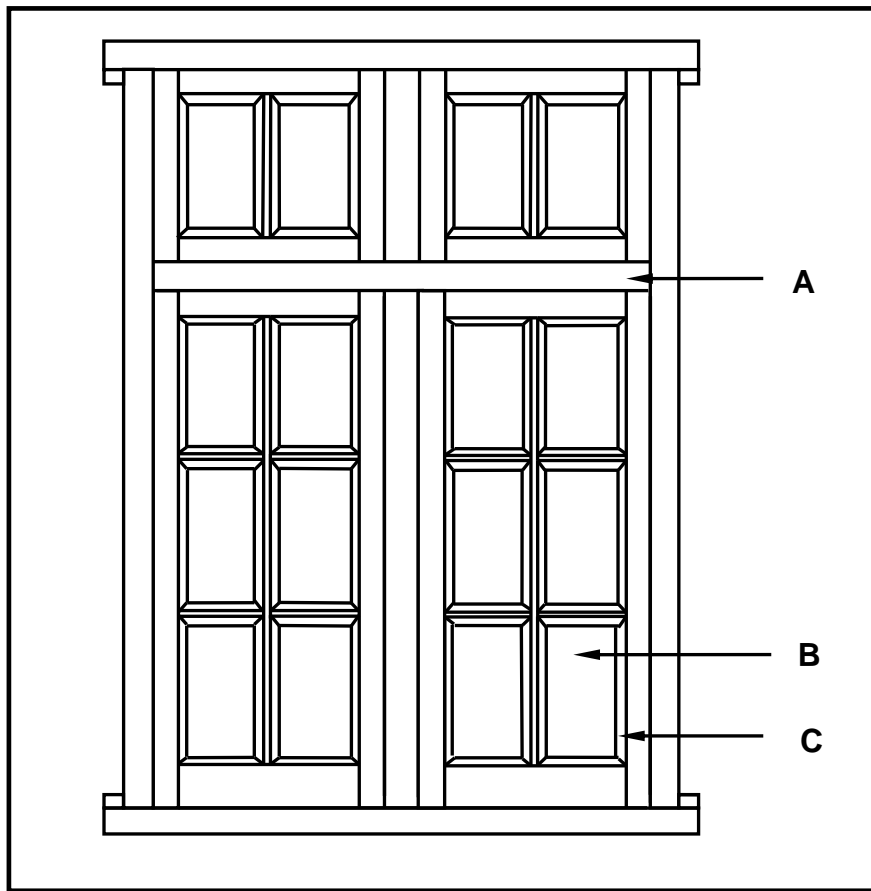

FIGURE 3.2
- 3.2 FIGURE 3.2 below shows an external elevation of a double casement with fanlights. Study the picture and answer the questions that follow.